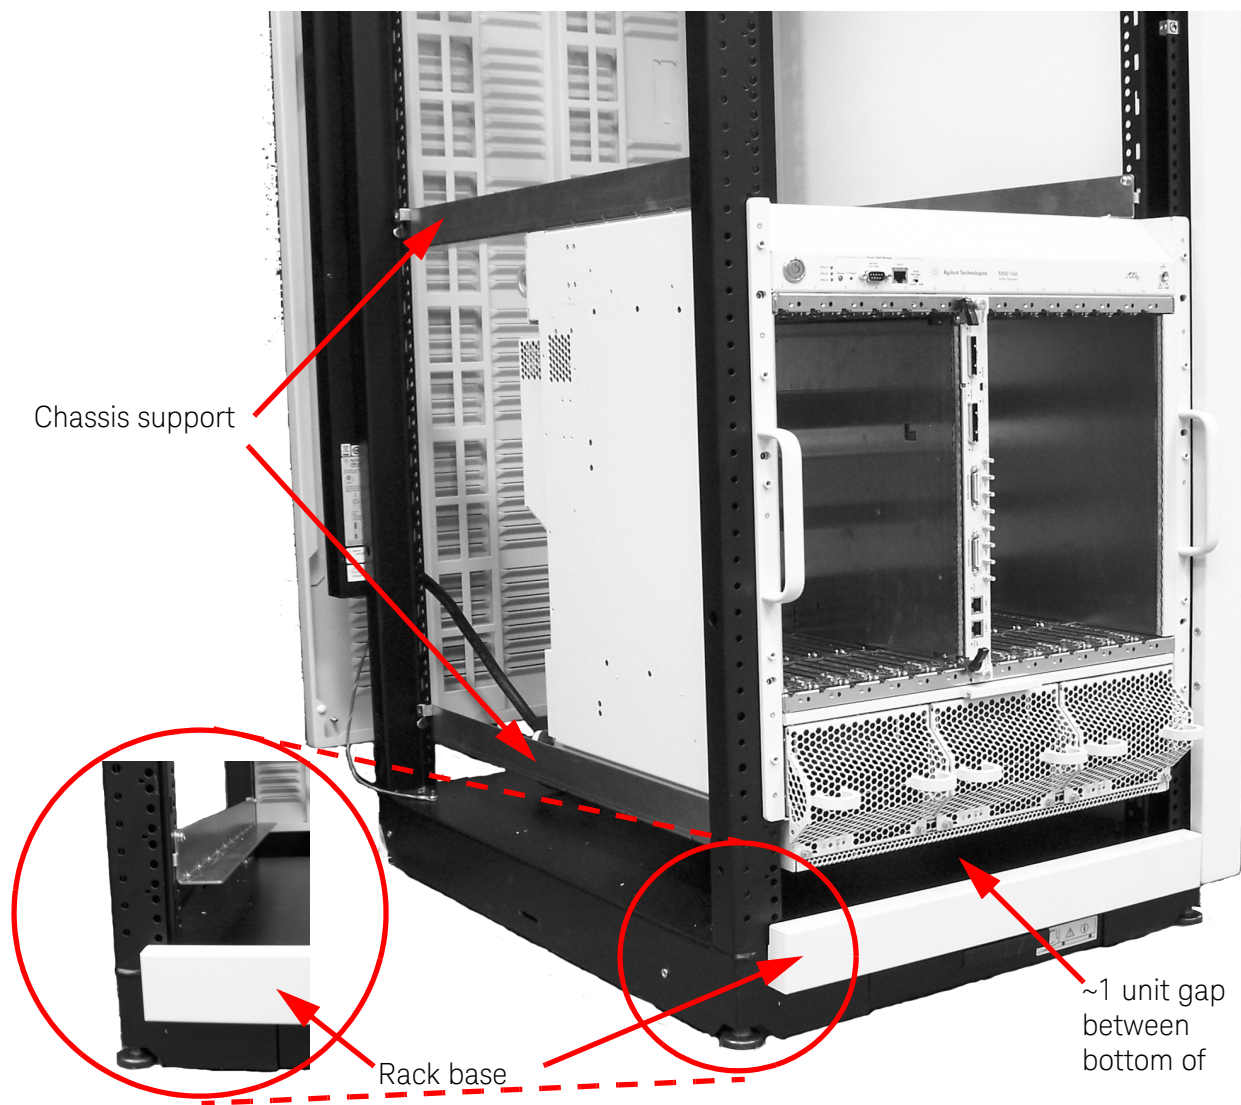

Figure 8 For multiple chassis in a rack, install the first one at the bottom of the rack (left side panel removed for visibility in photo)
- 1 Start by installing the support rails and chassis one EIA unit up from the bottom of the rack. This prevents the rack base cover from interfering with the chassis. See Figure 8 below.
- 2 As shown in Figure 8, for the next chassis, install the support rails directly on top of the first chassis. Although the rails are installed in slots in the rack, always secure the rails to the rack.